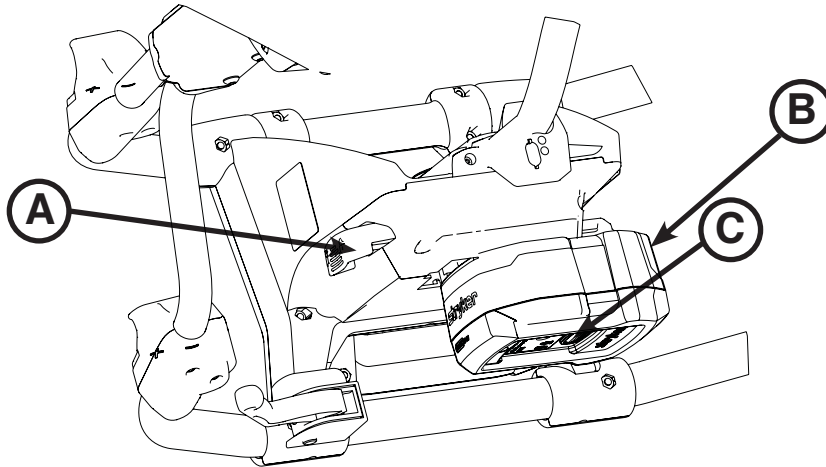

Figure 35: SMRT Pak Removal and Replacement
1. Press the RED one hand release button (C) or press the battery release button (A) to release the SMRT Pak (B) from the cot as shown in Figure 35.